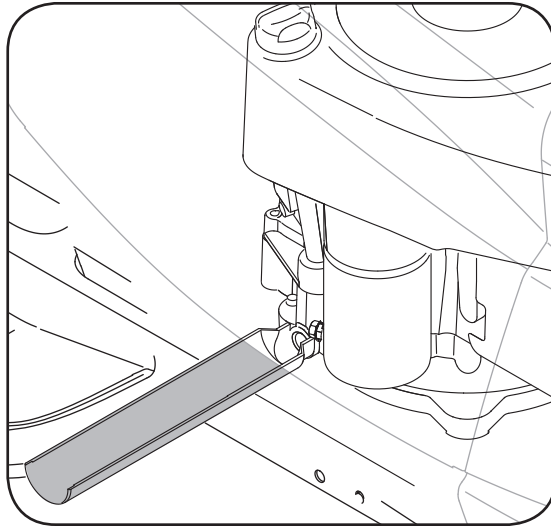

Figure 14
2. Snap the small end of oil drain sleeve onto the oil sump. See Figure 14.